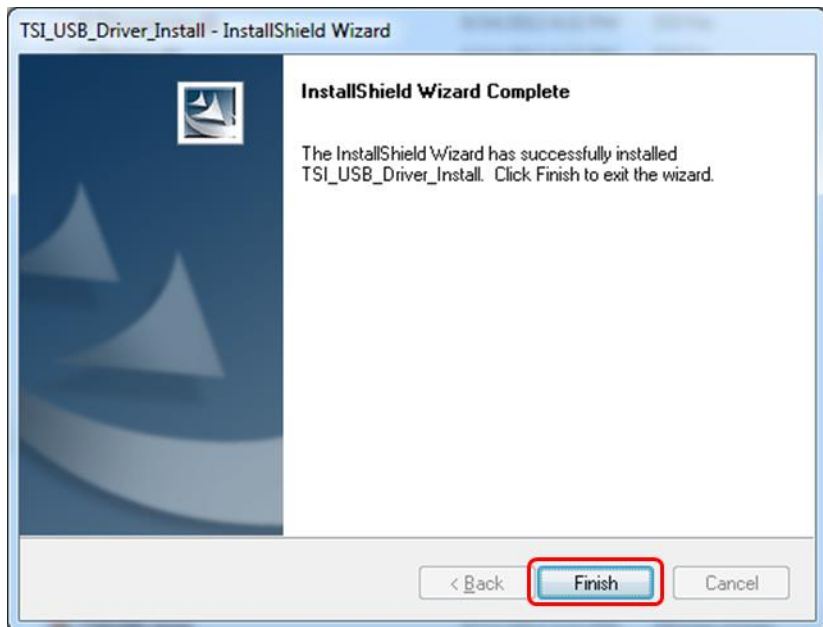

Figure 8
- Select the **Finish** button to complete the installation (Figure 8).